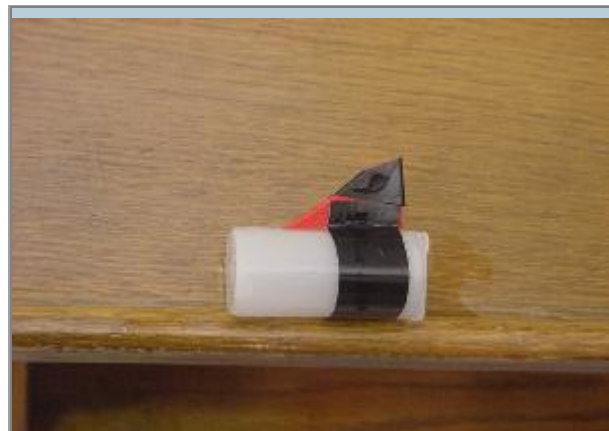

Figure 4. A rocket-boat, or aqua-thruster.
2. Have the students make a fin or keel for their aqua-thruster. A small piece of dense foam, folded construction paper, or even tape doubled over on itself and cut to a fin shape can be used. This will help the aqua-thrusters keep their pinhole nozzles in the water, and travel straight (see Figure 4).